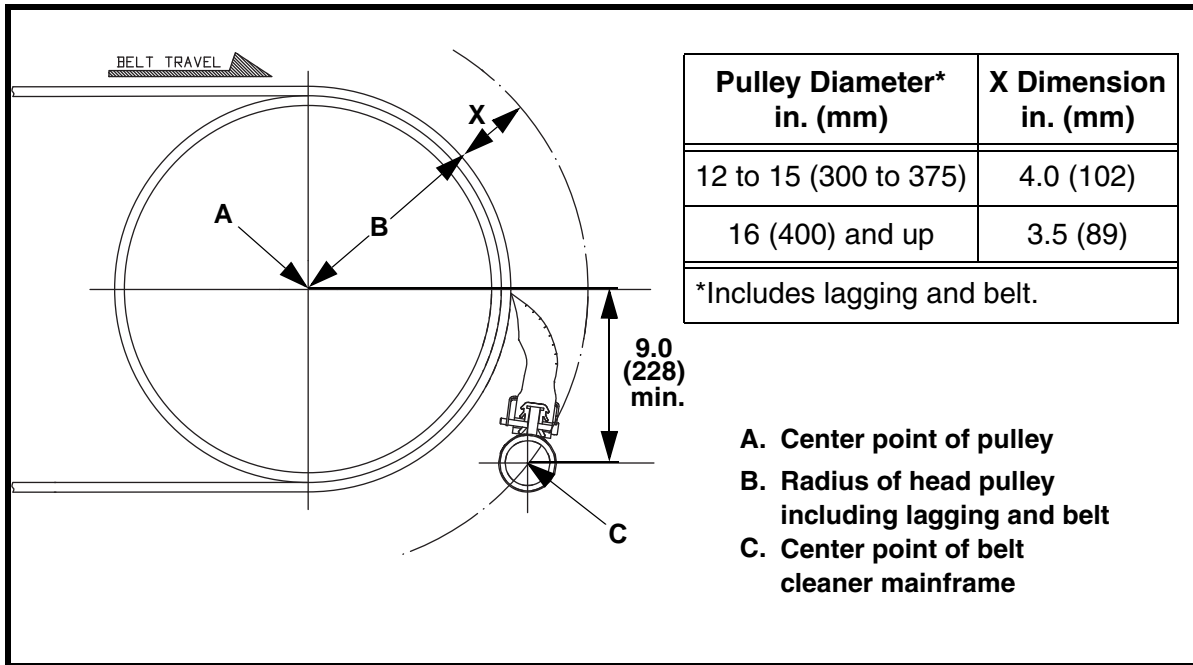

Figure 1. Belt Cleaner Mainframe Location
1. On operator side of chute, find pulley center point (A).
2. Measure radius of head pulley including lagging and belt thickness (B). To this dimension, add dimension X from the Table in Figure 1.
3. Starting from center point (A), measure the total distance calculated in step 2 (B + X) and draw an arc on chute wall.
4. Measure down from pulley's horizontal centerline the distance shown in Figure 1 and draw a horizontal line parallel to it. Locate center point of belt cleaner mainframe (C) where this line intersects the arc on the chute wall.